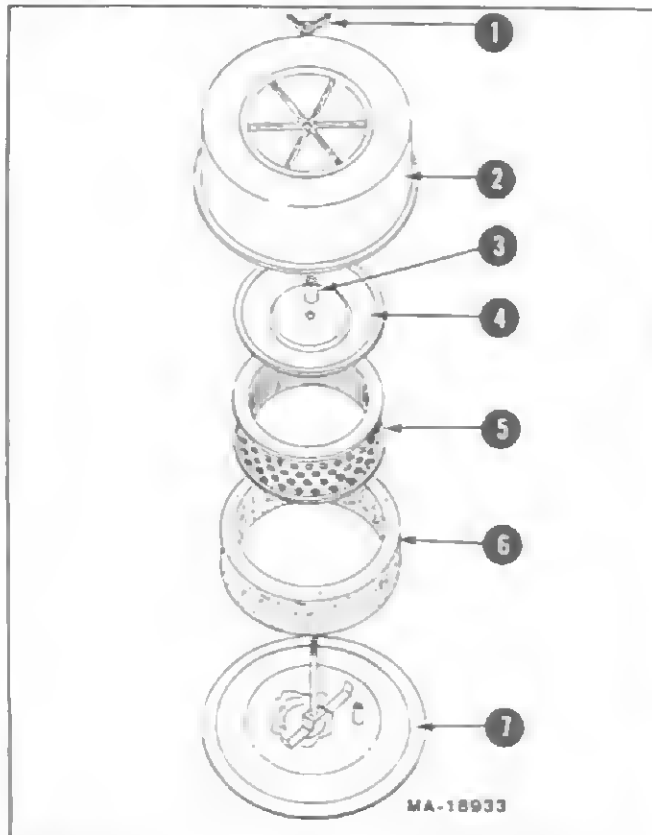

FIGURE 24.
1. Remove wing nut and cover. See figure 24.